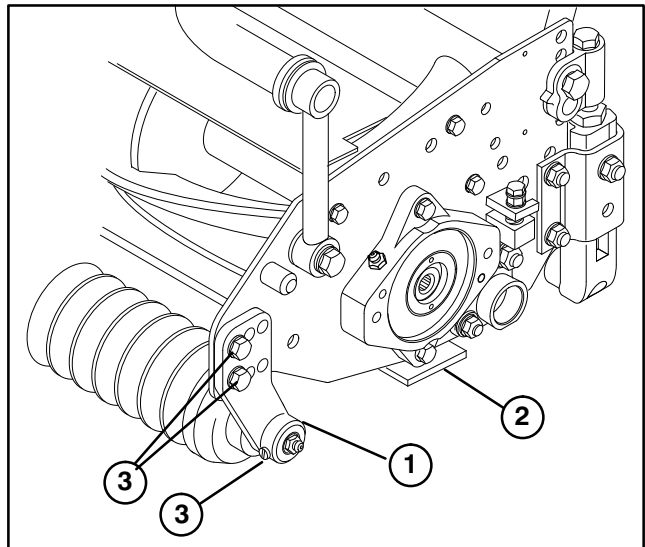

Figure 6
2. Position a 1/2" (13mm) or thicker bar under the reel blades and against the cutting edge of the bedknife (Fig. 6). **Make sure bar covers the full length of reel blades.** Rear roller should not contact surface.
3. Make sure capscrews and locknuts securing front roller brackets to side plates are loose (Fig. 6).
4. Make sure capscrews securing front roller to front roller brackets are loose. (Fig. 6)